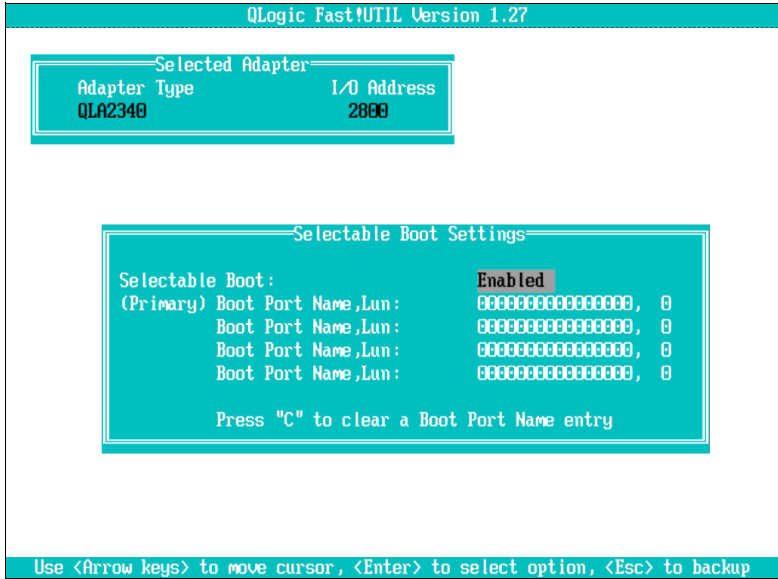

Figure 1-13 Selectable Boot Settings menu
- From the Configuration Settings menu, select **Selectable Boot Settings** to get to the panel shown in Figure 1-13.